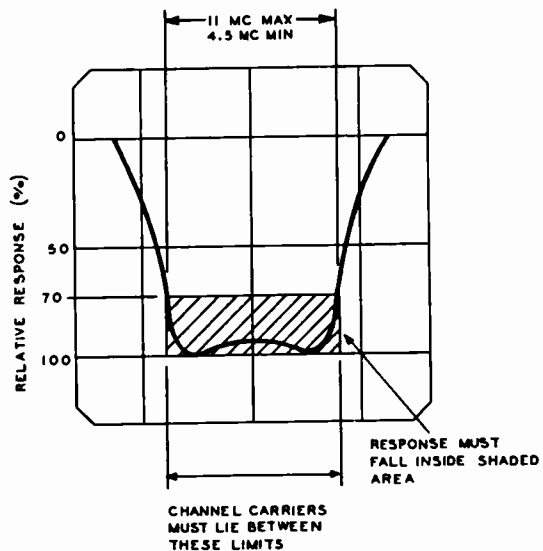

Figure 5. Television Tuner Response Curve, Showing Bandpass Limits
After the tuner is serviced, or if an i-f alignment is required, the tuner alignment should be checked by observing the tuner response curve, as given under Bandpass Alignment. If the response curve does not fall within the limits shown in figure 5, the tuner should be realigned. If realignment is necessary, use the procedure given below.
2. Establish the channel limits (see figure 5) by using the marker (AM r-f) signal generator to produce marker pips on the response curve. (Set the marker generator first to 210 mc., then to 216 mc.) The curve should be reasonably flat between the limits shown in figure 5.
4. Readjust TC502 and TC504 for a symmetrical response, centered about 213 mc., and falling within the limits shown in figure 5.